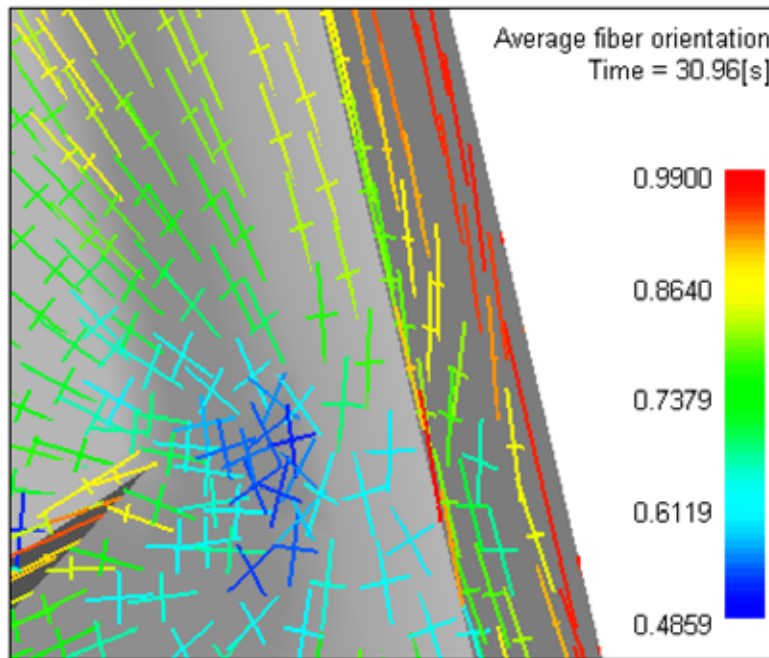

Figure 101: Fiber orientation tensors
- The tensor by default is plotted by **First Principal value**. This means that the highest probability percentage of the fibers is in the direction indicated by the tensor axis, as shown in Figure 101.